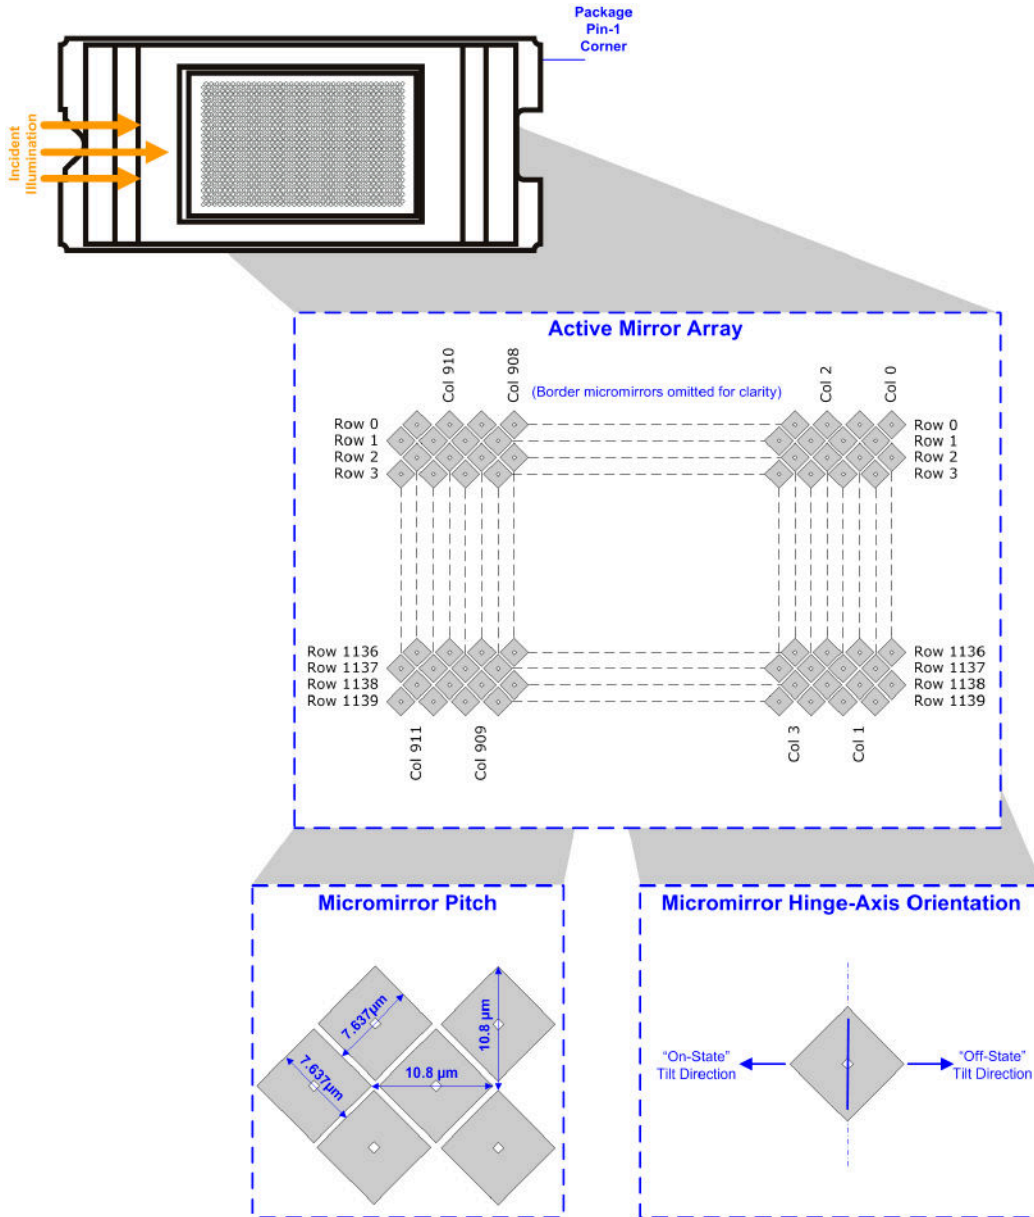
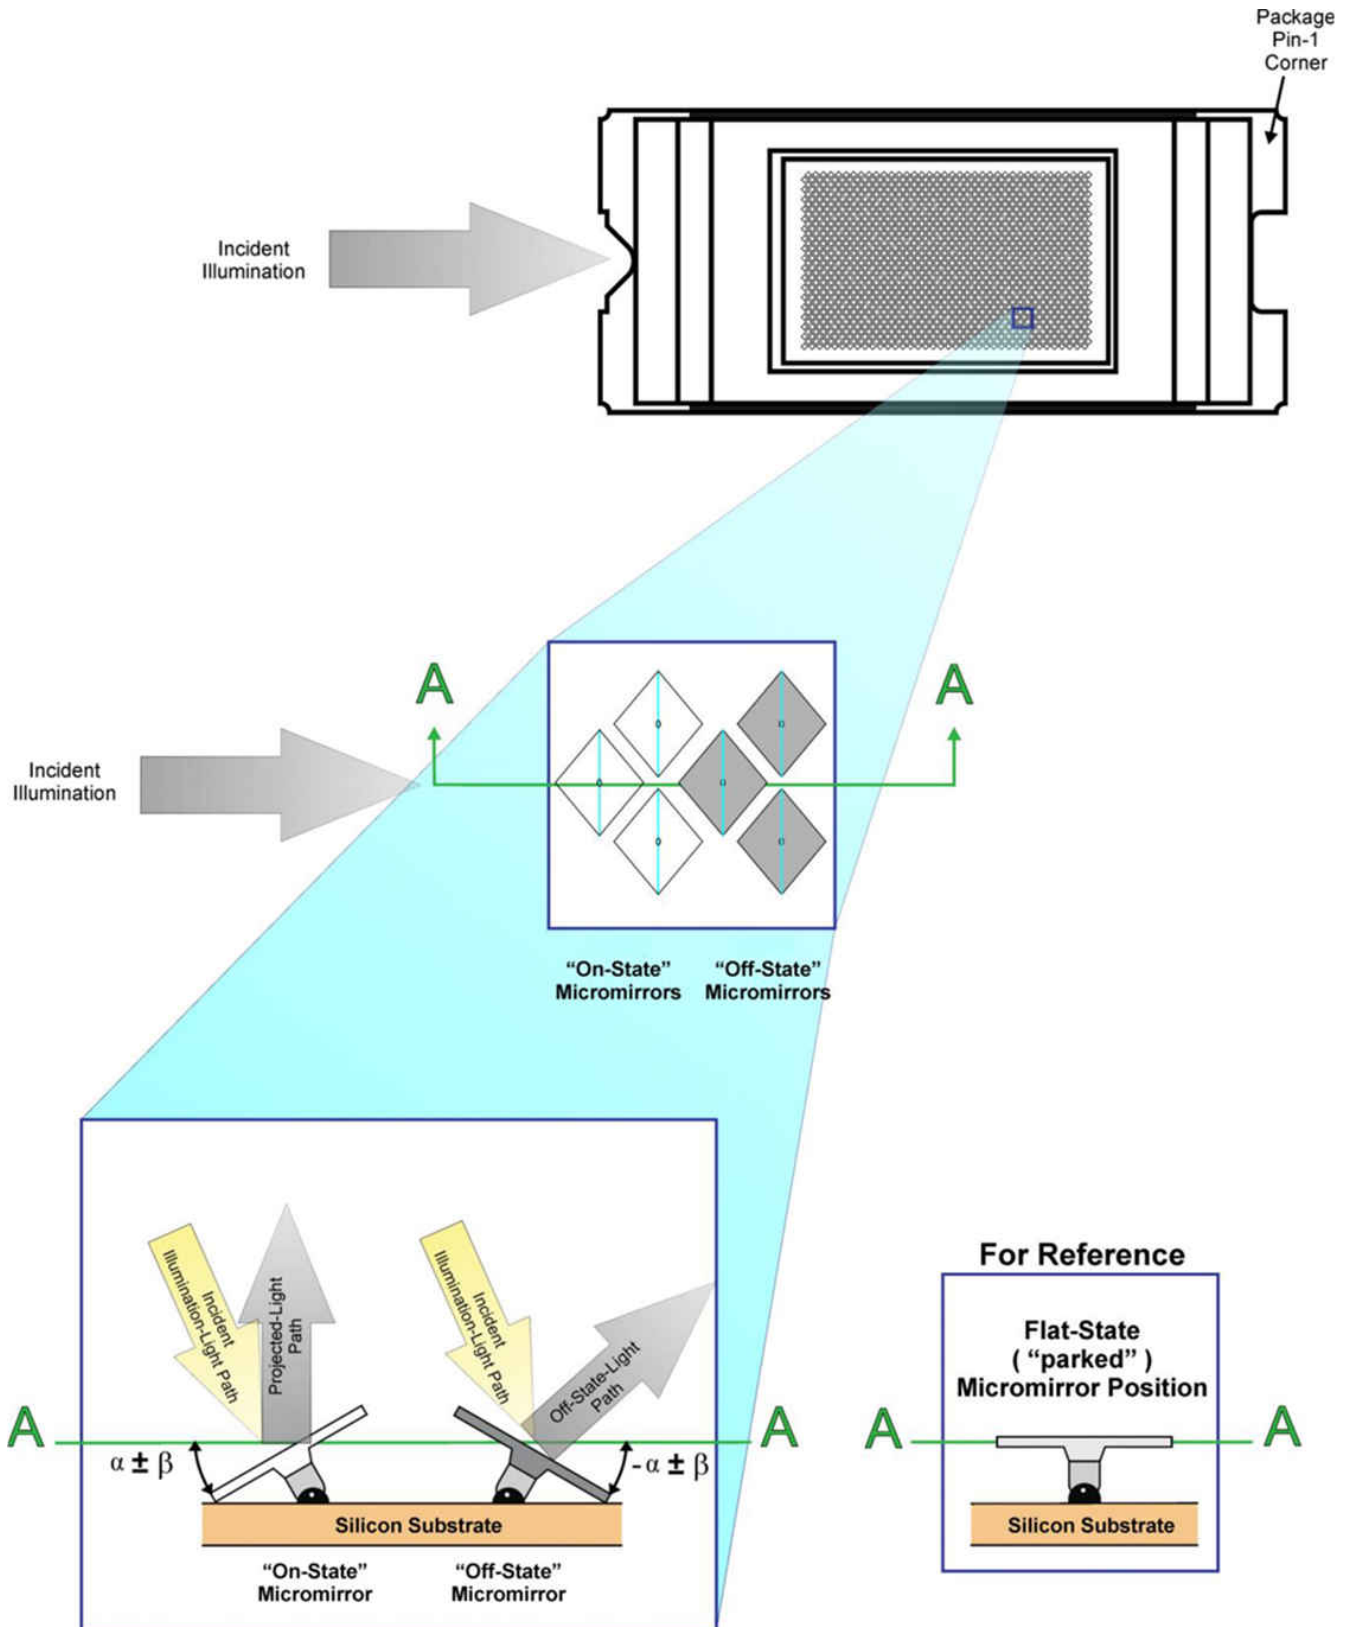

图 8-1. Micromirror Array, Pitch, and Hinge-Axis Orientation
图 8-2. Micromirror Landed Positions and Light Paths
- (1) The mirrors that form the array border are hard-wired to tilt in the -12° (“Off”) direction once power is applied to the DMD (see Fig 8-1 and Fig 8-2).
- (2) See Fig 8-1.
- (1) Measured relative to the plane formed by the overall micromirror array.
- (2) Micromirror crossover time is primarily a function of the natural response time of the micromirrors.
- (3) *Parking* the micromirror array returns all of the micromirrors to a relatively flat (0°) state (as measured relative to the plane formed by the overall micromirror array).
- (4) When the micromirror array is *parked*, the tilt angle of each individual micromirror is uncontrolled.
- (5) Additional variation exists between the micromirror array and the package datums.
- (6) When the micromirror array is *landed*, the tilt angle of each individual micromirror is dictated by the binary contents of the CMOS memory cell associated with each individual micromirror. A binary value of 1 results in a micromirror *landing* in an nominal angular position of +12°. A binary value of 0 results in a micromirror *landing* in an nominal angular position of -12°.
- (7) Represents the *landed* tilt angle variation relative to the nominal *landed* tilt angle
- (8) Represents the variation that can occur between any two individual micromirrors, located on the same device or located on different devices.
- (9) For some applications, it is critical to account for the micromirror tilt angle variation in the overall system optical design. With some system optical designs, the micromirror tilt angle variation within a device may result in perceivable non-uniformities in the light field reflected from the micromirror array. With some system optical designs, the micromirror tilt angle variation between devices may result in colorimetry variations or system contrast variations.
- (10) See 图 8-2.
- (11) Performance as measured at the start of life.
- (12) Measured relative to the package datums B and C, shown in the Package Mechanical Data section in # 13.
- (13) The nominal DMD total optical efficiency results from the following four components:
- (14) The DMD diffraction efficiency and total optical efficiency observed in a specific application depends on numerous application-specific design variables, such as:
Optically, the DLP4500 device consists of 1039680 highly reflective, digitally switchable, micrometer-sized mirrors (micromirrors) organized in a two-dimensional array. The micromirror array consists of 912 micromirror columns by 1140 micromirror rows in diamond pixel configuration (图 8-1). Due to the diamond pixel configuration, the columns of each odd row are offset by half a pixel from the columns of the even row.